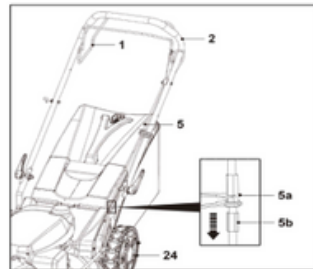

Fig. 32
NOTE: The self-propel cable (5) may need to be adjusted as it can stretch over time. If the rear wheels (24) do not rotate when using the self-propel lever (1), the self-propel cable (5) may need to be adjusted (Fig. 32).